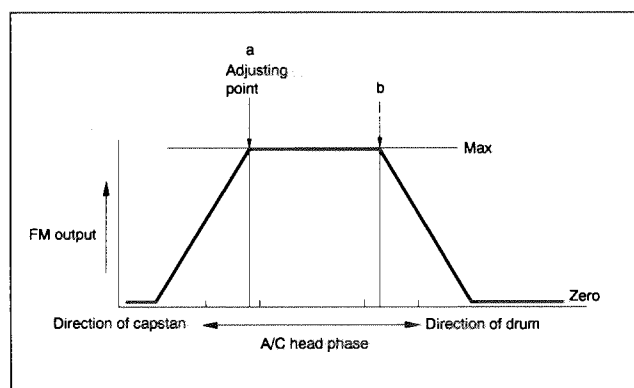

Fig. 2-5-8 Phase adjustment point of control head
2. Operate the tracking button in the center and manual tracking mode by pressing the tracking (+) and (-) buttons and confirm that the FM output level is maximum at the center position as shown in Fig. 2-5-8.
3. If necessary, slightly loosen the setscrews (D) and (E) and insert the Tweezers into the notch and guide hole to move the A/C head fully in the direction of the capstan to the extent.
4. Gradually move the A/C head toward the drum to find the position where the FM output level maximum for the first time (a' - b' in Fig. 2-5-8).
5. Fine adjust the phase of the A/C head and tighten the screws (D) and (E) at the point a.